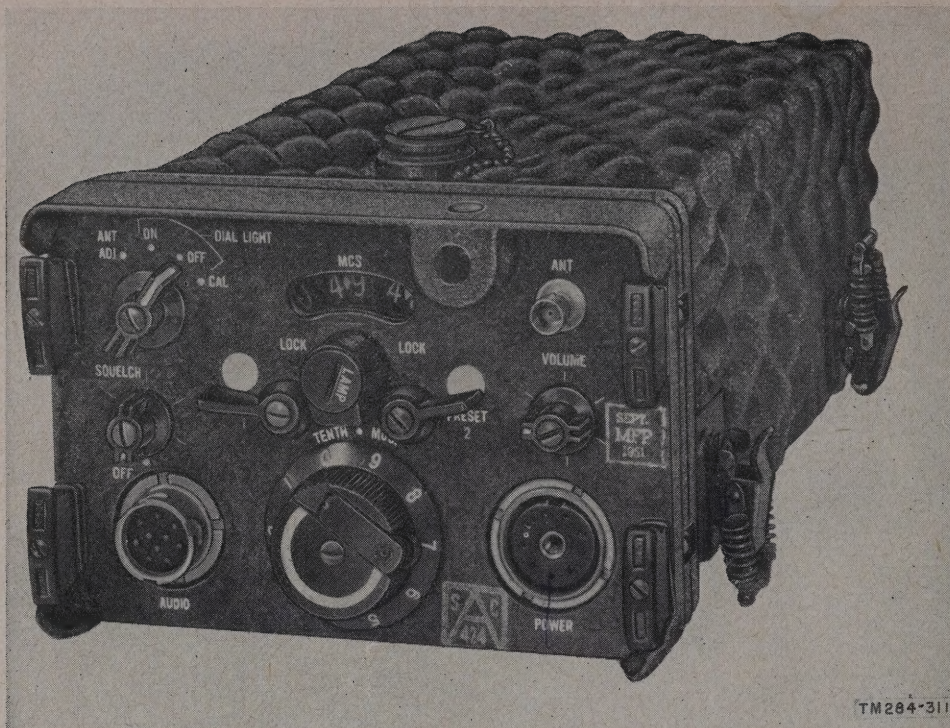

Figure 6. Receiver-Transmitter RT-70/GRC.
a. Set 2 Receiver-Transmitter RT-70/GRC (fig. 6) is a small lightweight radio set, which is included in all the radio sets described in this manual. It is referred to as Set 2 (par. 2). A complete description is given in TM 11-290. Characteristics pertinent to system operation are listed in paragraph 5.